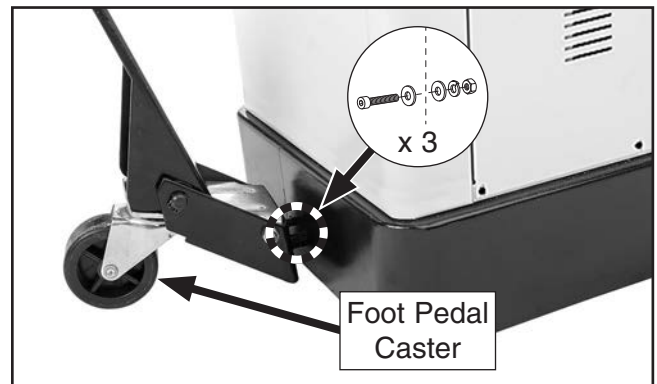

Figure 26. Foot pedal and caster installed on bottom of stand.
24. Mount foot-pedal caster to bottom of stand using (3) M8-1.25 x 50 cap screws, (3) 8mm lock washers, (6) 8mm flat washers, and (3) M8-1.25 hex nuts, then re-install cabinet stand rear access panel (see **Figure 26**).